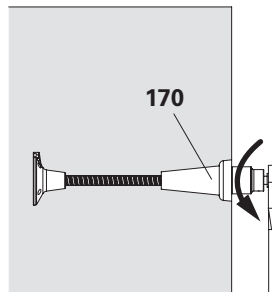

Fig. A3.26
1. Unscrew the Climbing Cone-2 M30/DW 20 (170) with a ratchet wrench and socket AF 46.
- (Fig. A3.26)